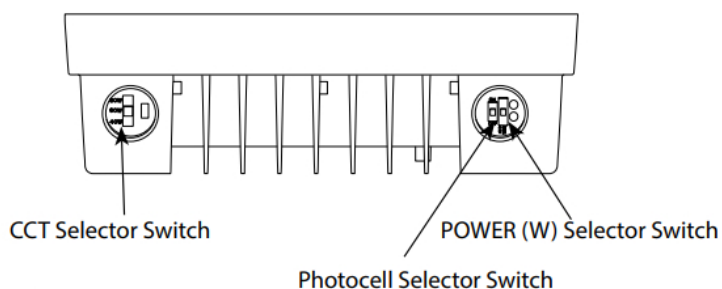

Fig: 4
2. Locate the Selector Switches on the fixture (Fig. 4).
3. Select Power (W) and Color Temperature (CCT) by sliding the respective switch to the desired value.